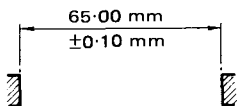

Fig. 3.100
(3) By stating a size with limits of tolerance above and below that size (Fig. 3.100).